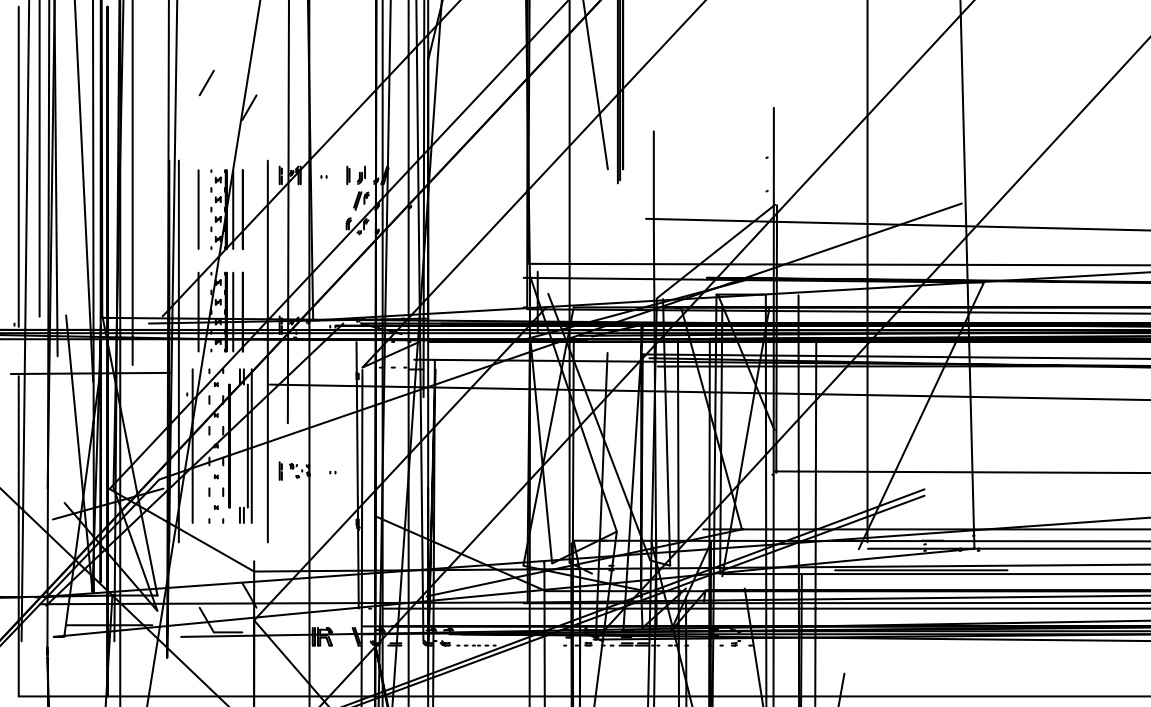

Figure 2-8B. IR Volume Control 2CH Preamp
- On 40933101 set all S1/DIP switches to OFF (refer to Figure 2-8B).
- On 40933101 set S1-1 DIP switch to ON and all others OFF (refer to Figure 2-8B).